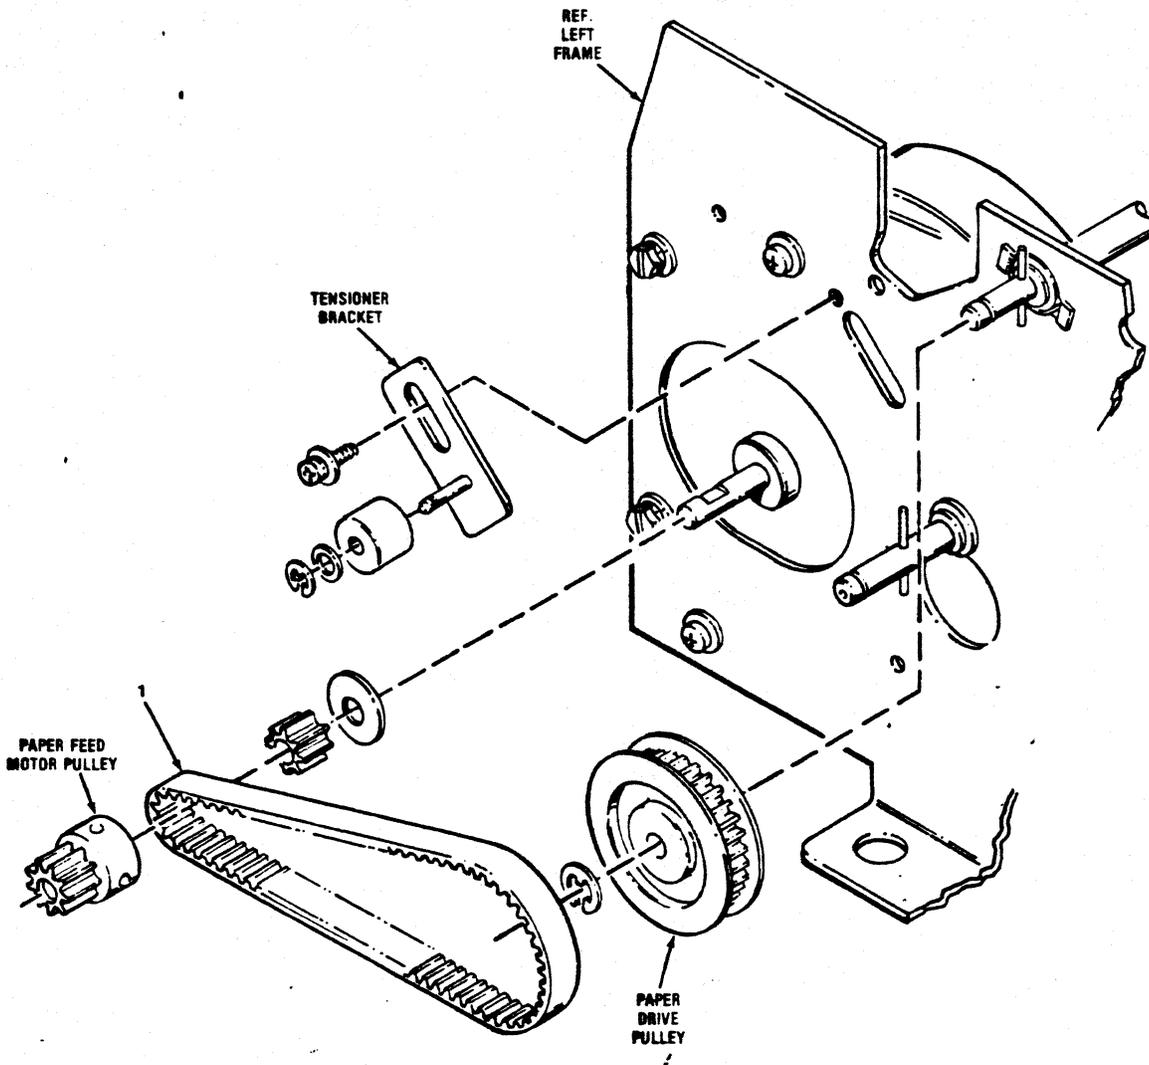

Figure 5-14. REMOVAL/REPLACEMENT, PAPER DRIVE BELT
The paper drive belt, item 1 of Figure 5-14, provides the drive from the paper feed motor to the paper feed mechanism. The belt is removed using a snap ring remover and Phillips head screwdriver. To remove the belt, refer to Figure 5-14 and perform the following steps: